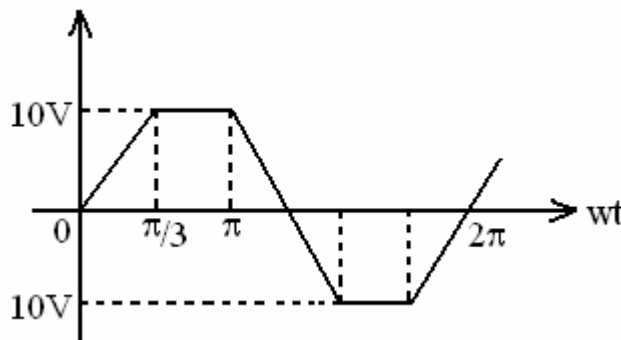

Figure 3
- 3.a) Calculate the RMS value of the voltage wave form shown below in Figure 3.